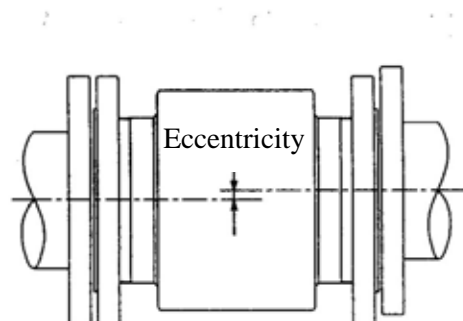

Figure 4.1 Pipe leaning and axis misplacement
- (1) Before installing pipes, check for any leaning, misplacement or eccentricity as illustrated in Figure 4.1. An attempt to unreasonably connect pipes that are inclined may lead to a detector breakdown or fluid leakage. Connecting pipes in an eccentric state may also cause wears and tear of linings and grounding rings, as well as measurement errors. Before installing pipes, make sure to flush the interior of the pipes to remove deposited material.